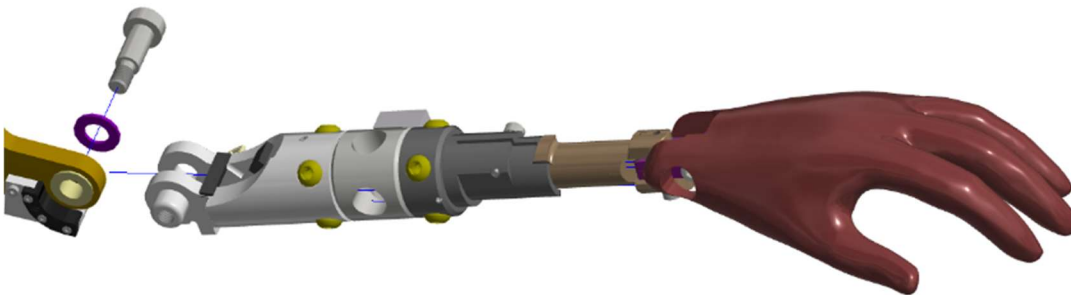

Figure 11-8. Remove the elbow joint, M10 X 20 LG. SHSS and Upper-Lower Arm Washer (474-6502)
11.2.5 Remove the elbow joint, M10 X 20 LG. SHSS and Upper-Lower Arm Washer (474-6502) (Figure 11-8).